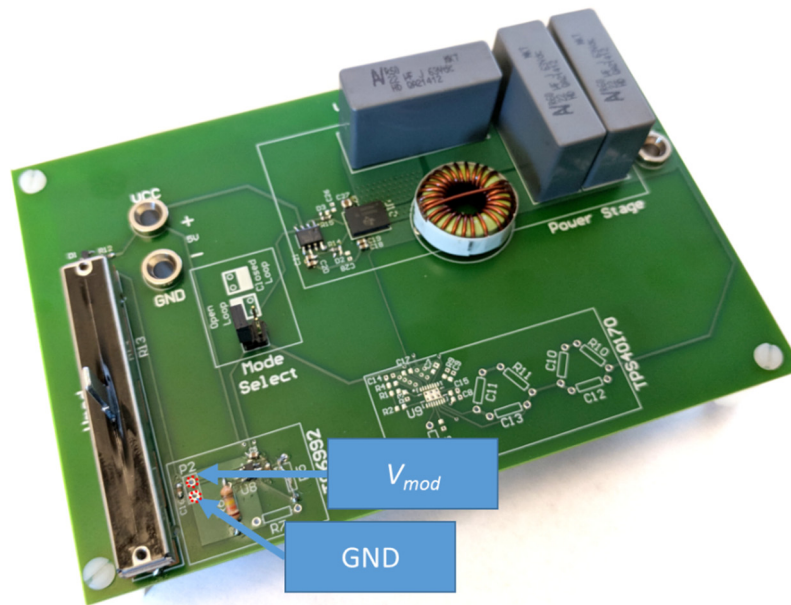

Fig. 4: Demo board used in Experiment 2, with the location of  $V_{mod}$  shown.
- Once the signal generator has been configured, connect the probe from the signal generator to  $V_{mod}$ . See Fig. 4 for the location of  $V_{mod}$  on the test board. Using a second probe, measure  $V_{mod}$  on Channel 1 on the front of the oscilloscope. Set both of these probes to 1x attenuation (on the probe and in the scope settings for Channel 1).